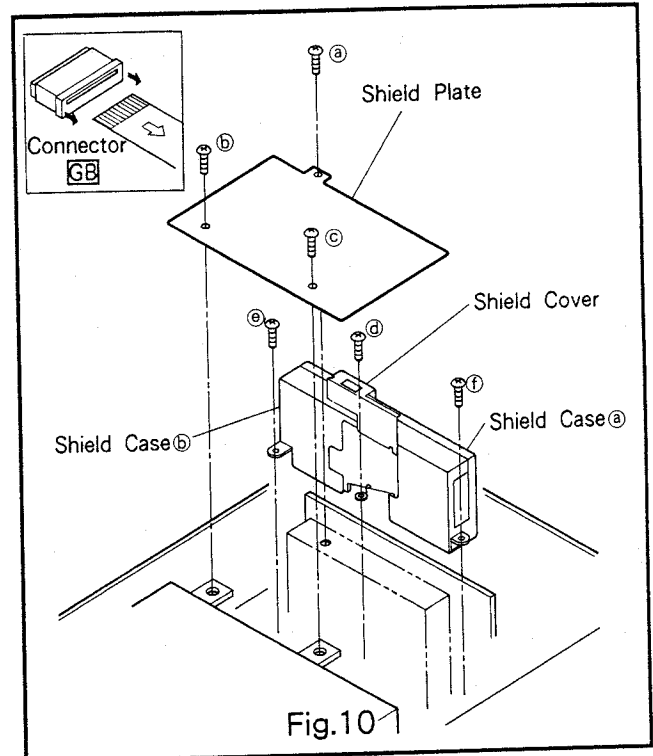

Fig.10
- A. Remove the three screws (a~c), as shown in Fig.10.